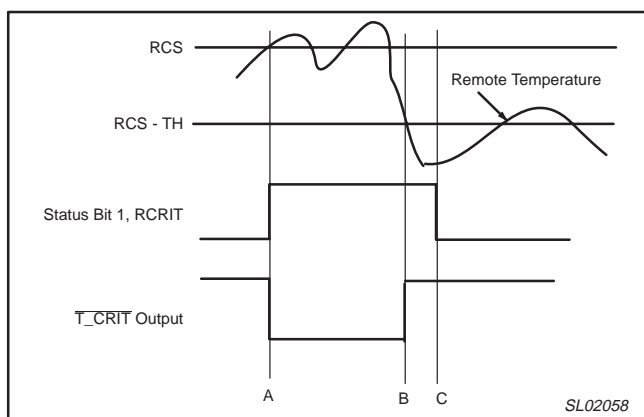

Figure 15.  $\overline{T\_CRIT}$  temperature response timing diagram
After every local and remote temperature conversion the Status register flags and the  $\overline{T\_CRIT}$  output are updated. Figure 15 is a timing diagram showing the relationship of  $\overline{T\_CRIT}$  output, Status bit 1 (RCRIT) and the remote critical temperature setpoint (RCS), and critical temperature hysteresis (TH) with remote temperature changes. Note that the  $\overline{T\_CRIT}$  output is de-activated only after the remote temperature is below the remote temperature setpoint, RCS minus the Hysteresis, TH. In the interrupt mode only, the Status register flags are reset after the Status register is read.